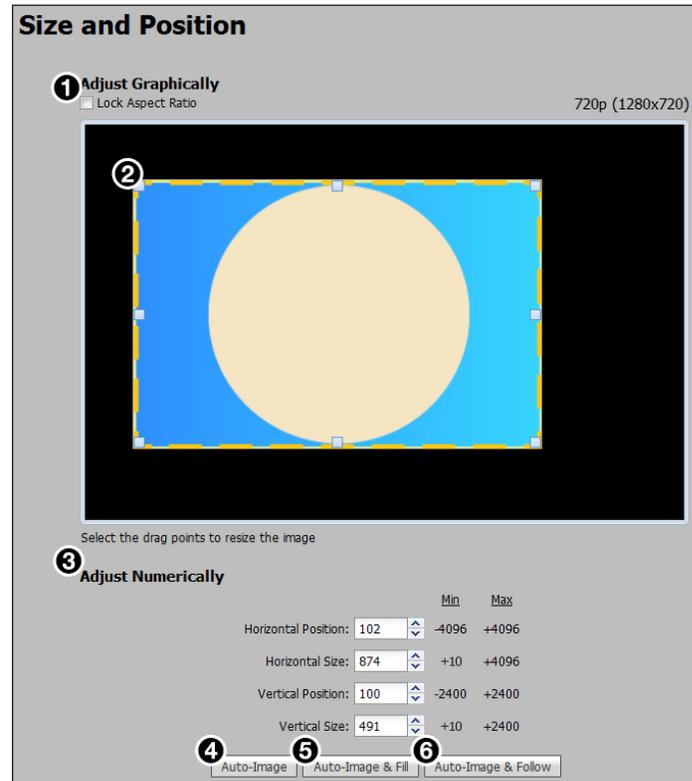

Figure 63. Size and Position Page
1. From the Input Presets list (see figure 63, **1**) or the User Presets list (**5**), select the desired preset.